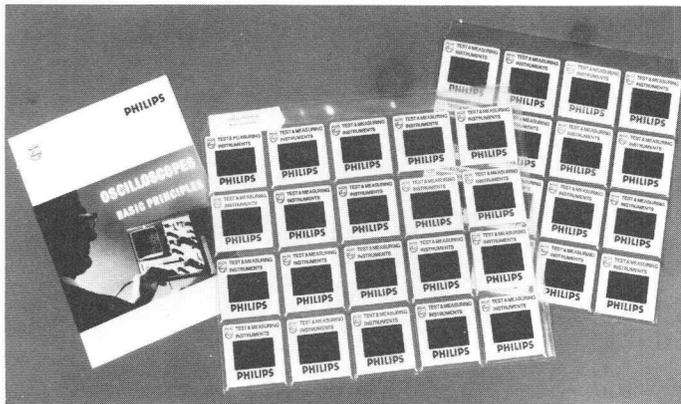

Fig. 1
1. 'Oscilloscopes Series 1 Basic Principles' (Fig. 1)